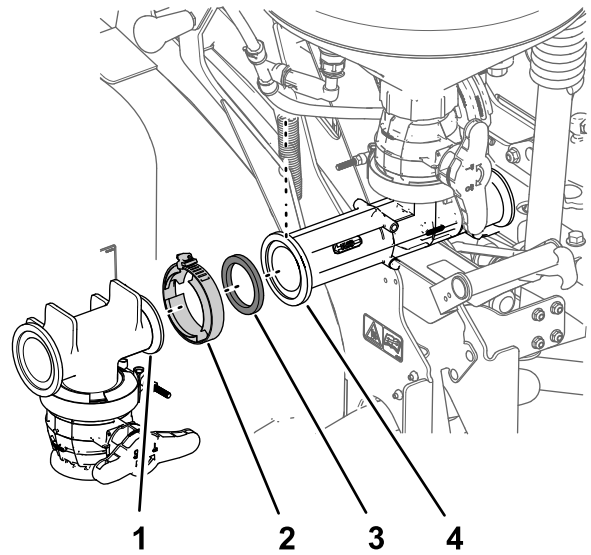

Figure 24
1. Align the flange of the T-fitting for the drain valve with the forward flange of the eductor (Figure 24).
2. Assemble the T-fitting to the eductor with a gasket and flange clamp, and tighten the clamp by hand (Figure 24).